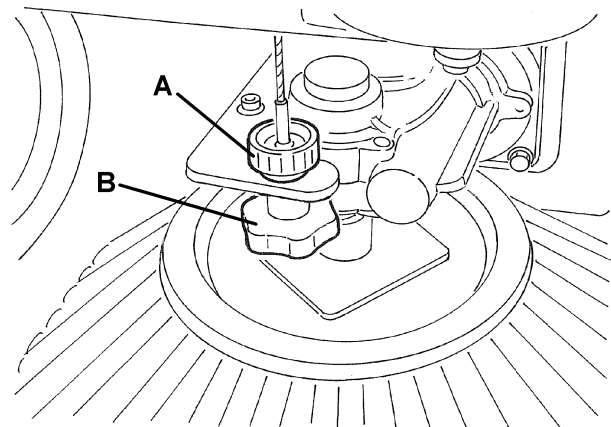

Figure 7
2. Engage the parking brake with the pedal (3) and the lever (4).
3. Turn the ignition key (82) to "0".
4. Loosen the knob (A, Fig. 7) positioned above the broom.
5. Turn the knob (B, Fig. 7) and remind that: